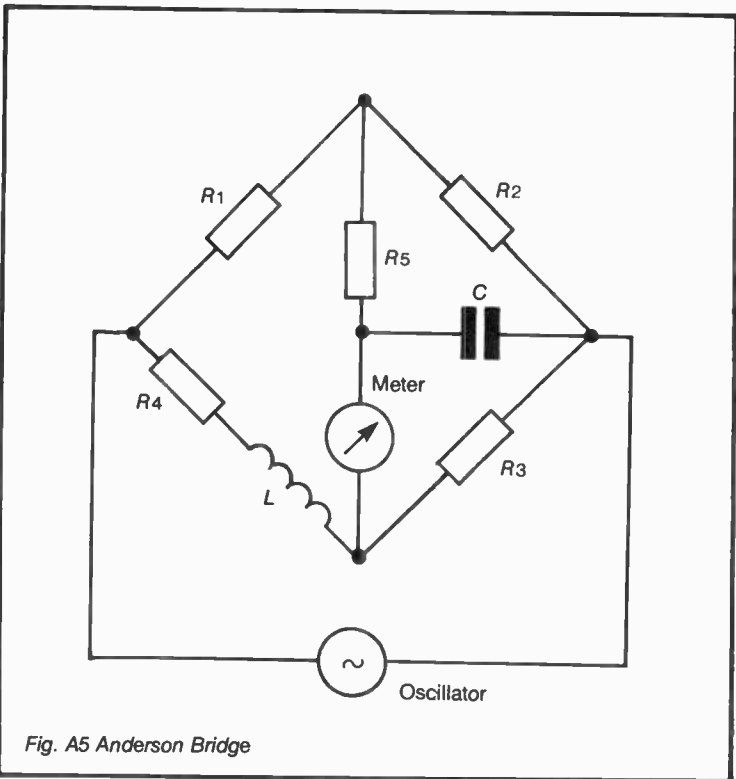

Fig. A5 Anderson Bridge
**ANDERSON BRIDGE** is a modified form of the Maxwell bridge, capable of measuring a wide range of inductances against fixed values of capacitance. The circuit is shown in Figure A5.  $L$  is the unknown inductance connected in series with a variable resistor,